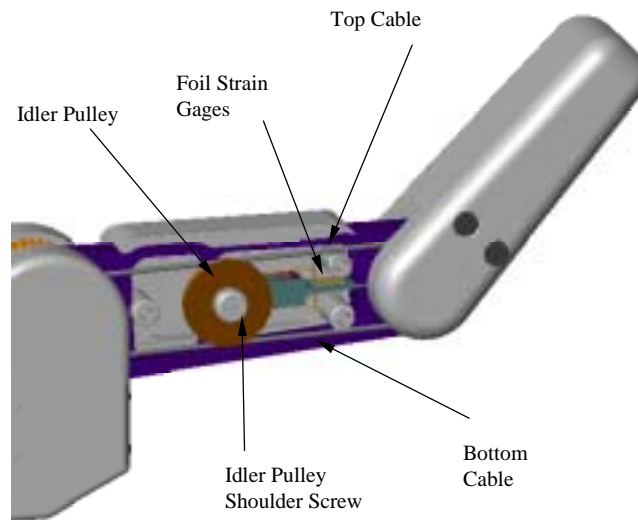

Figure 18 - Cable and Idler Pulley
2. Verify the cable is riding across both the top and the bottom of the idler pulley, as shown in Figure 18.
3. Verify the cable is riding properly on the idler pulley, as shown in Figure 18.
4. Verify idler pulley rotates freely on the shoulder screw. The shoulder screw should not be tightened against the idler pulley. If so, loosen shoulder screw, shown in Figure 18, so the idler pulley will move with cable motion.